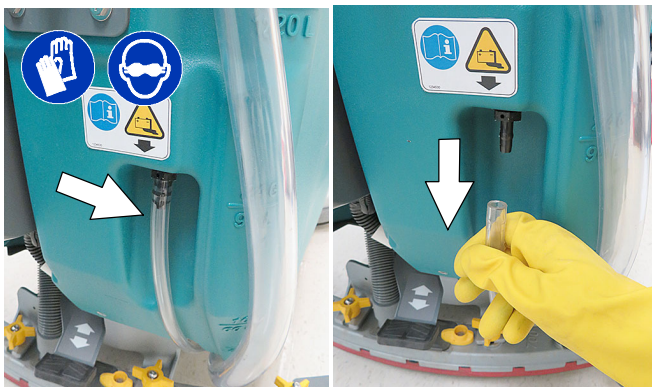

FIG. 144
2. Pull the battery compartment drain hose from hose holder and carefully drain liquid from battery compartment (Figure 144).